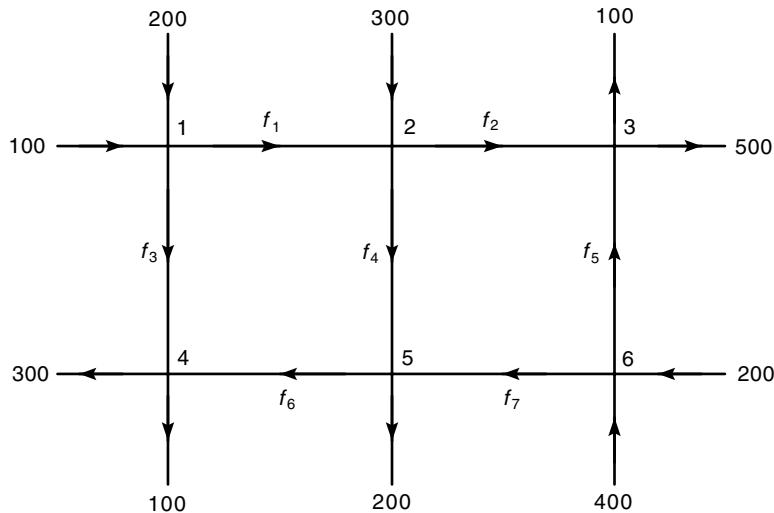

Figure P13
13. See Figure P13. Assume that no vehicles stop within the network. A traffic engineer wants to know if the traffic flows f_1, f_2, \dots, f_7 (in vehicles per hour) can be computed given the measured flows shown in the figure. If not, then determine how many more traffic sensors need to be installed, and obtain the expressions for the other traffic flows in terms of the measured quantities.